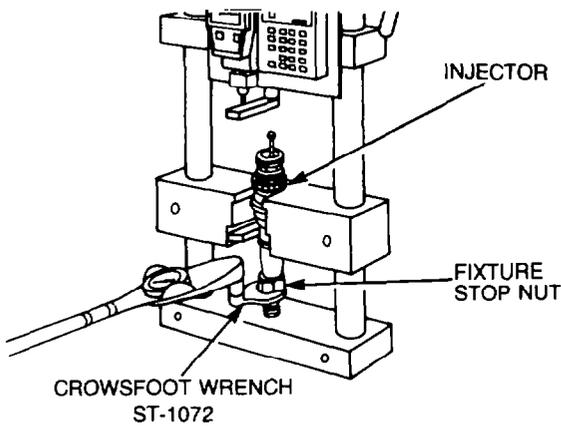

Figure 118 — Fixture Stop Nut — Tensioning
- d. Install the injector and holding bracket into the top stop setting fixture ensuring that the injector is central over the fixture stop nut (see Fig. 118). Then using crowsfoot wrench ST-1072 and a suitable tension wrench, torque the fixture stop nut to 13 Nm (115 lb.in.).